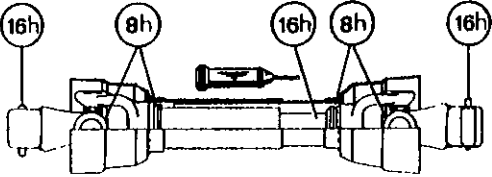

Figure 28
- 8) Check impeller adjustment. The tip of the blades should be approximately 1/8" to 3/16" from the discharge wall of the drum. If necessary, adjust with the take-up screws provided (Fig. 28).